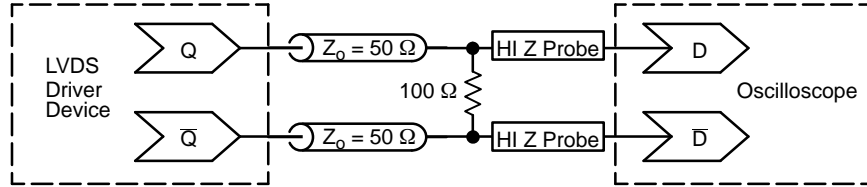

Figure 18. Typical LVDS Termination for Output Driver and Device Evaluation
4. LVDS outputs require $100\ \Omega$ receiver termination resistor between differential pair. See Figure 18.